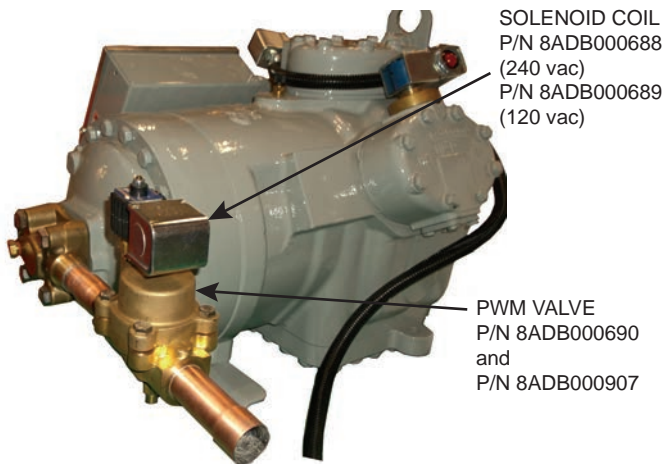

Fig. 41 — Solenoid Coil Valve and PWM Stem Position
- The PWM valve must be mounted in a horizontal position so the solenoid coil valve stem is in the vertical position. Mounting in any other direction or imposing a tilt angle may result in valve malfunction. See Fig. 41.